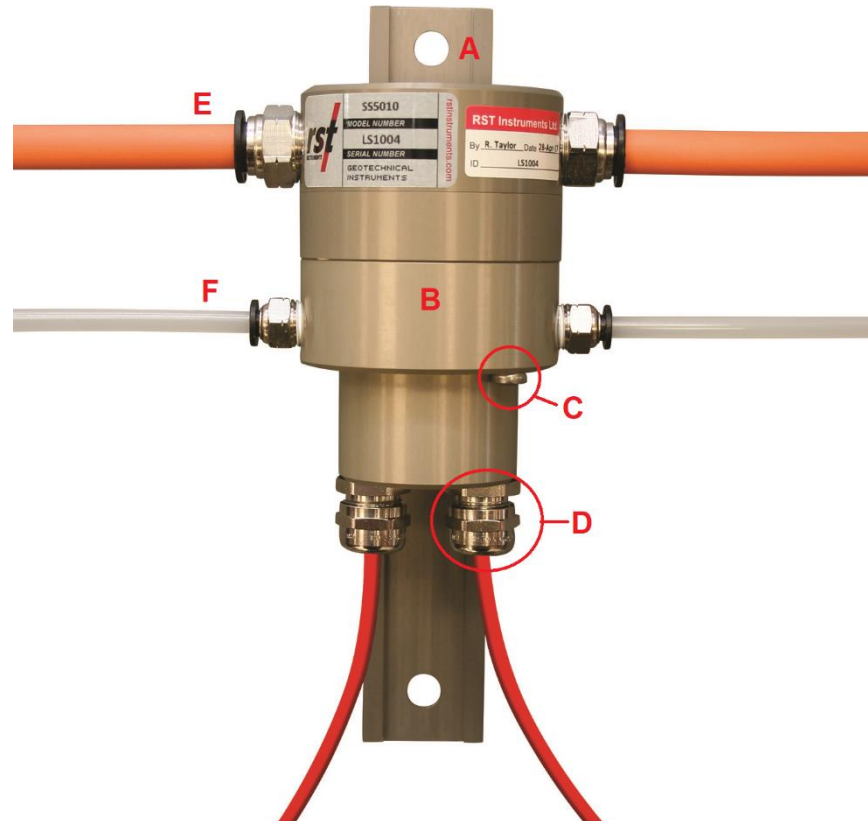

FIGURE 5-1 PRECISION LIQUID SENSOR
Figure 5-1 illustrates a Precision Liquid Sensor and important components.
- 2 Place the 25 mm M8 concrete anchors for the sensors (Figure 5-1, A). Sensors should be vertical +/- 1.5 degrees.
- 4 On the lower portion of the sensor enclosure (Figure 5-1, B), loosen all screws (Figure 5-1, C).
- 6 Slide the cable through the cable gland (Figure 5-1, D) and insert the wires into the terminal according to Table 5-1.
- 8 Connect the liquid tubing (Figure 5-1, E) and air tubing (Figure 5-1, F) by inserting the tubes into their respective fittings. The tubing should be cleanly cut at 90° and inserted as far as possible into the fitting.